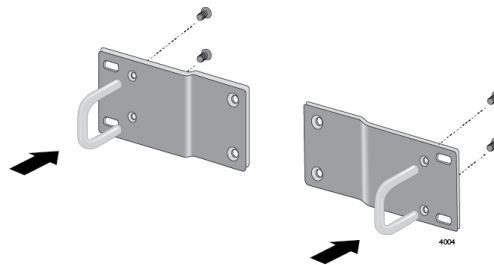

Figure 21. Attaching Handles to Brackets
3. Attach the handle to the short bracket with M3x6mm screws using a Phillip-head screw driver as shown in Figure 21.